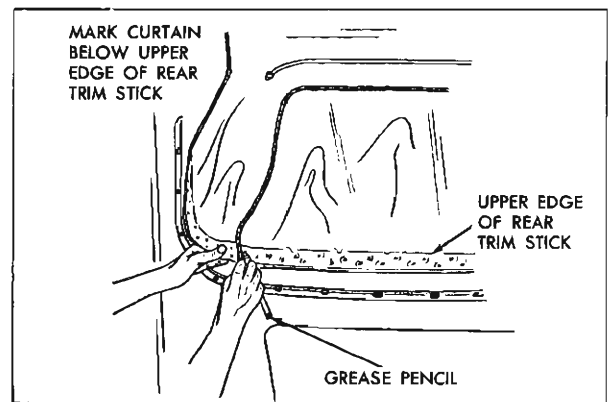

Fig. 21-33 Locating Top Edge
10. To establish relationship of right and left inner vertical edge of old top material to back curtain assembly at rear trim stick location, mark back curtain vinyl at both locations with a grease pencil (Fig. 21-33). Reference marks should be transferred to new back curtain when step 7 of installation procedure is performed.